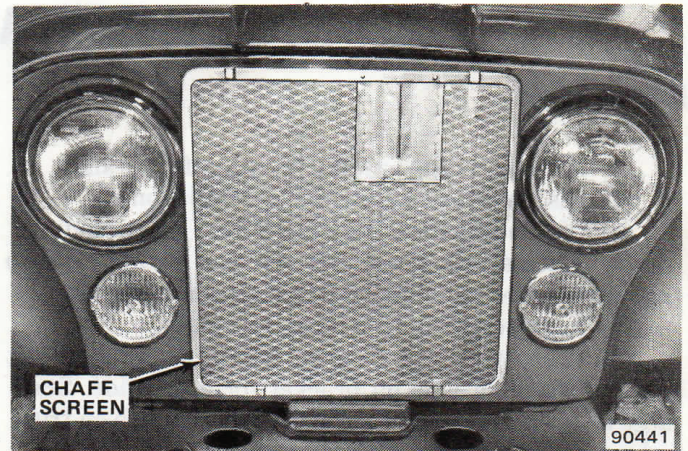

Fig. 17-1 Chaff Screen Installation
- (1) Place radiator screen into position on radiator grille.
- (2) Snap radiator screen fasteners to radiator grille bars to secure screen in place as shown in figure 17-1.